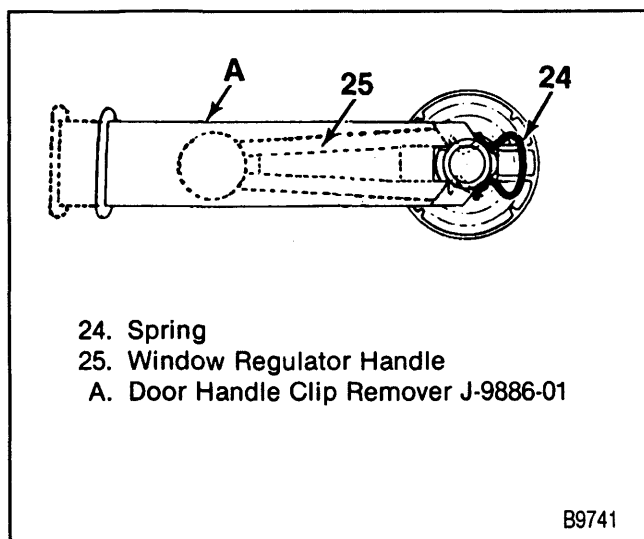

Figure 12—Window Handle Replacement
Remove or Disconnect (Figure 12)
**Install or Connect (Figure 12)**